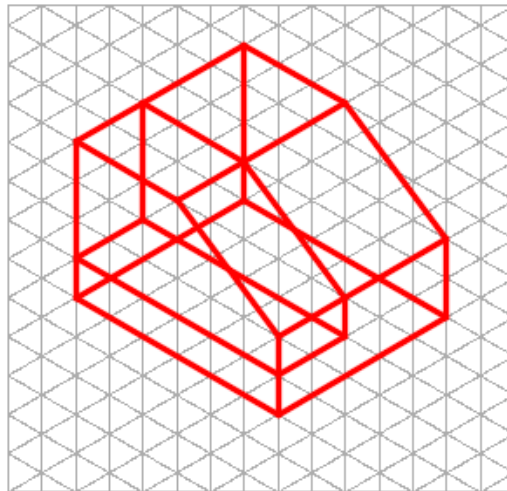

Figure Step 10
Step 10 Add the lines to cut out the contour of the Right Side view. (Figure Step 10)